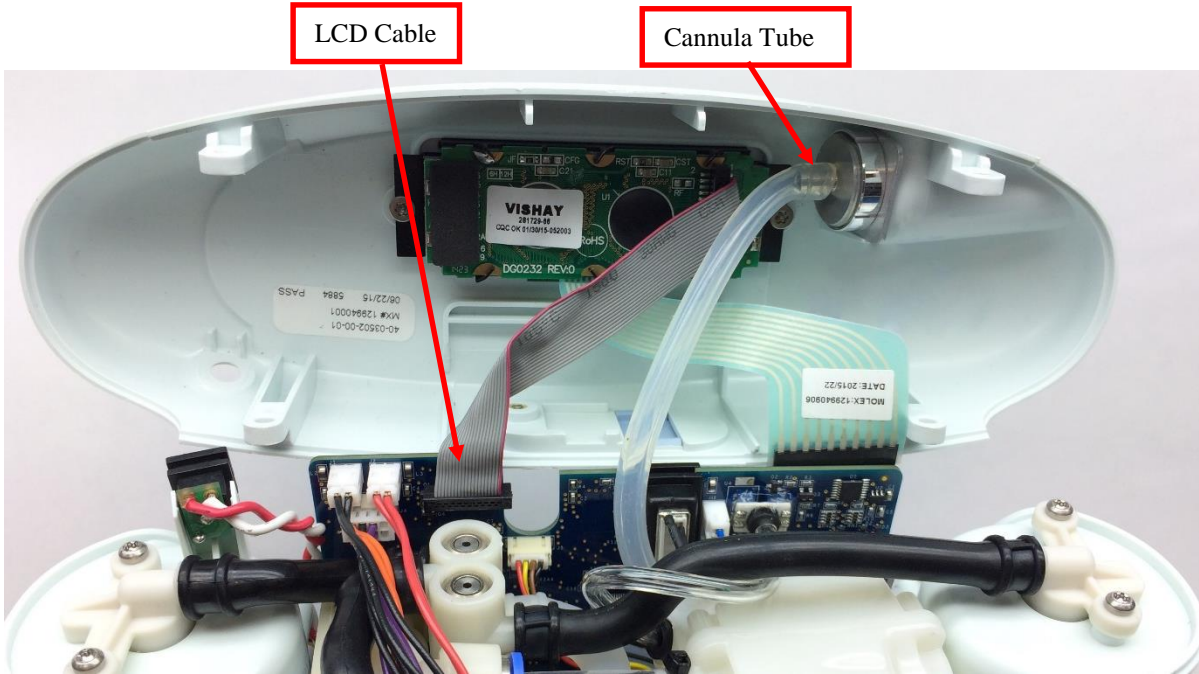

Figure 4: Remove cannula tube and LCD cable from user interface panel
3. Gently unplug the cannula tube and the LCD cable from the user interface panel (Figure 4). Remove the user interface panel.
5. Re-attach the cannula tubing to the cannula connector (Figure 4).